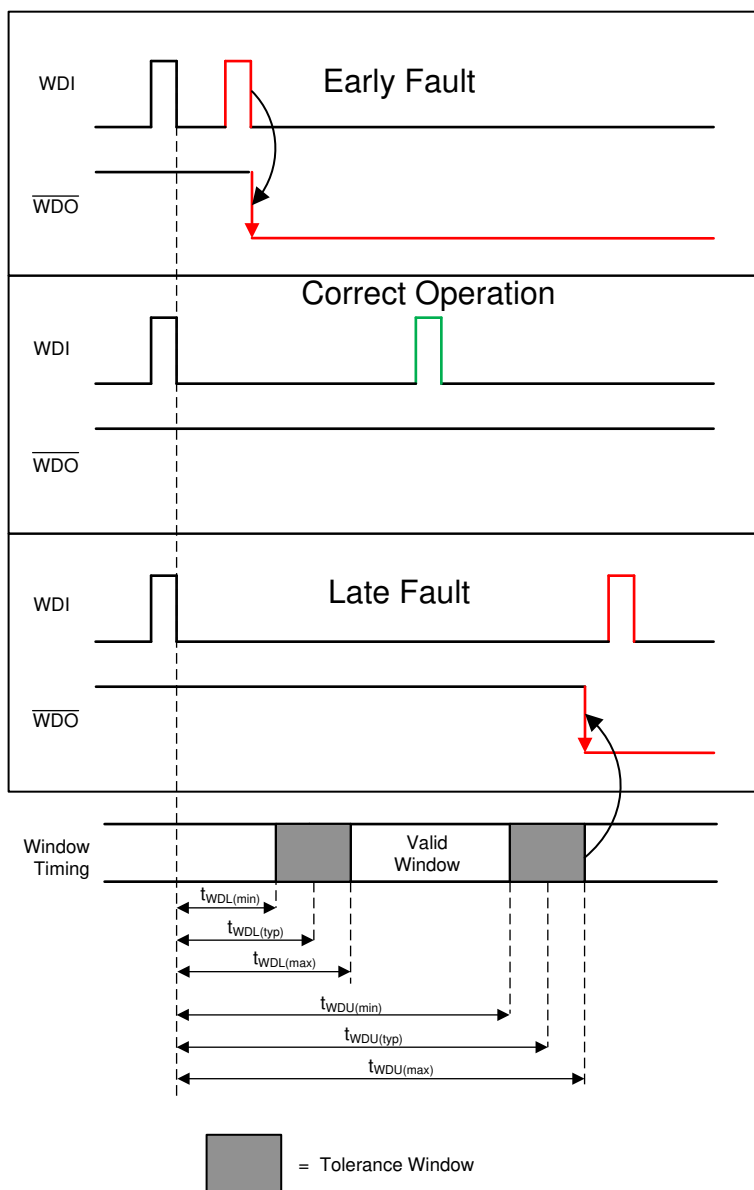

Figure 6-2. TPS3850 Window Watchdog Timing
A. See Figure 6-2 for WDI timing requirements.